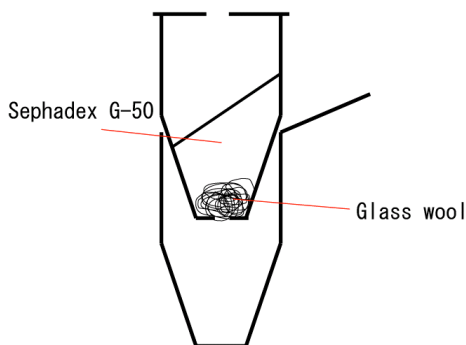

Fig 1
8. After the 2nd spin, ca 500 μ l of Sephadex G-50 fine should be kept in the eppendorf tube (Fig. 1).